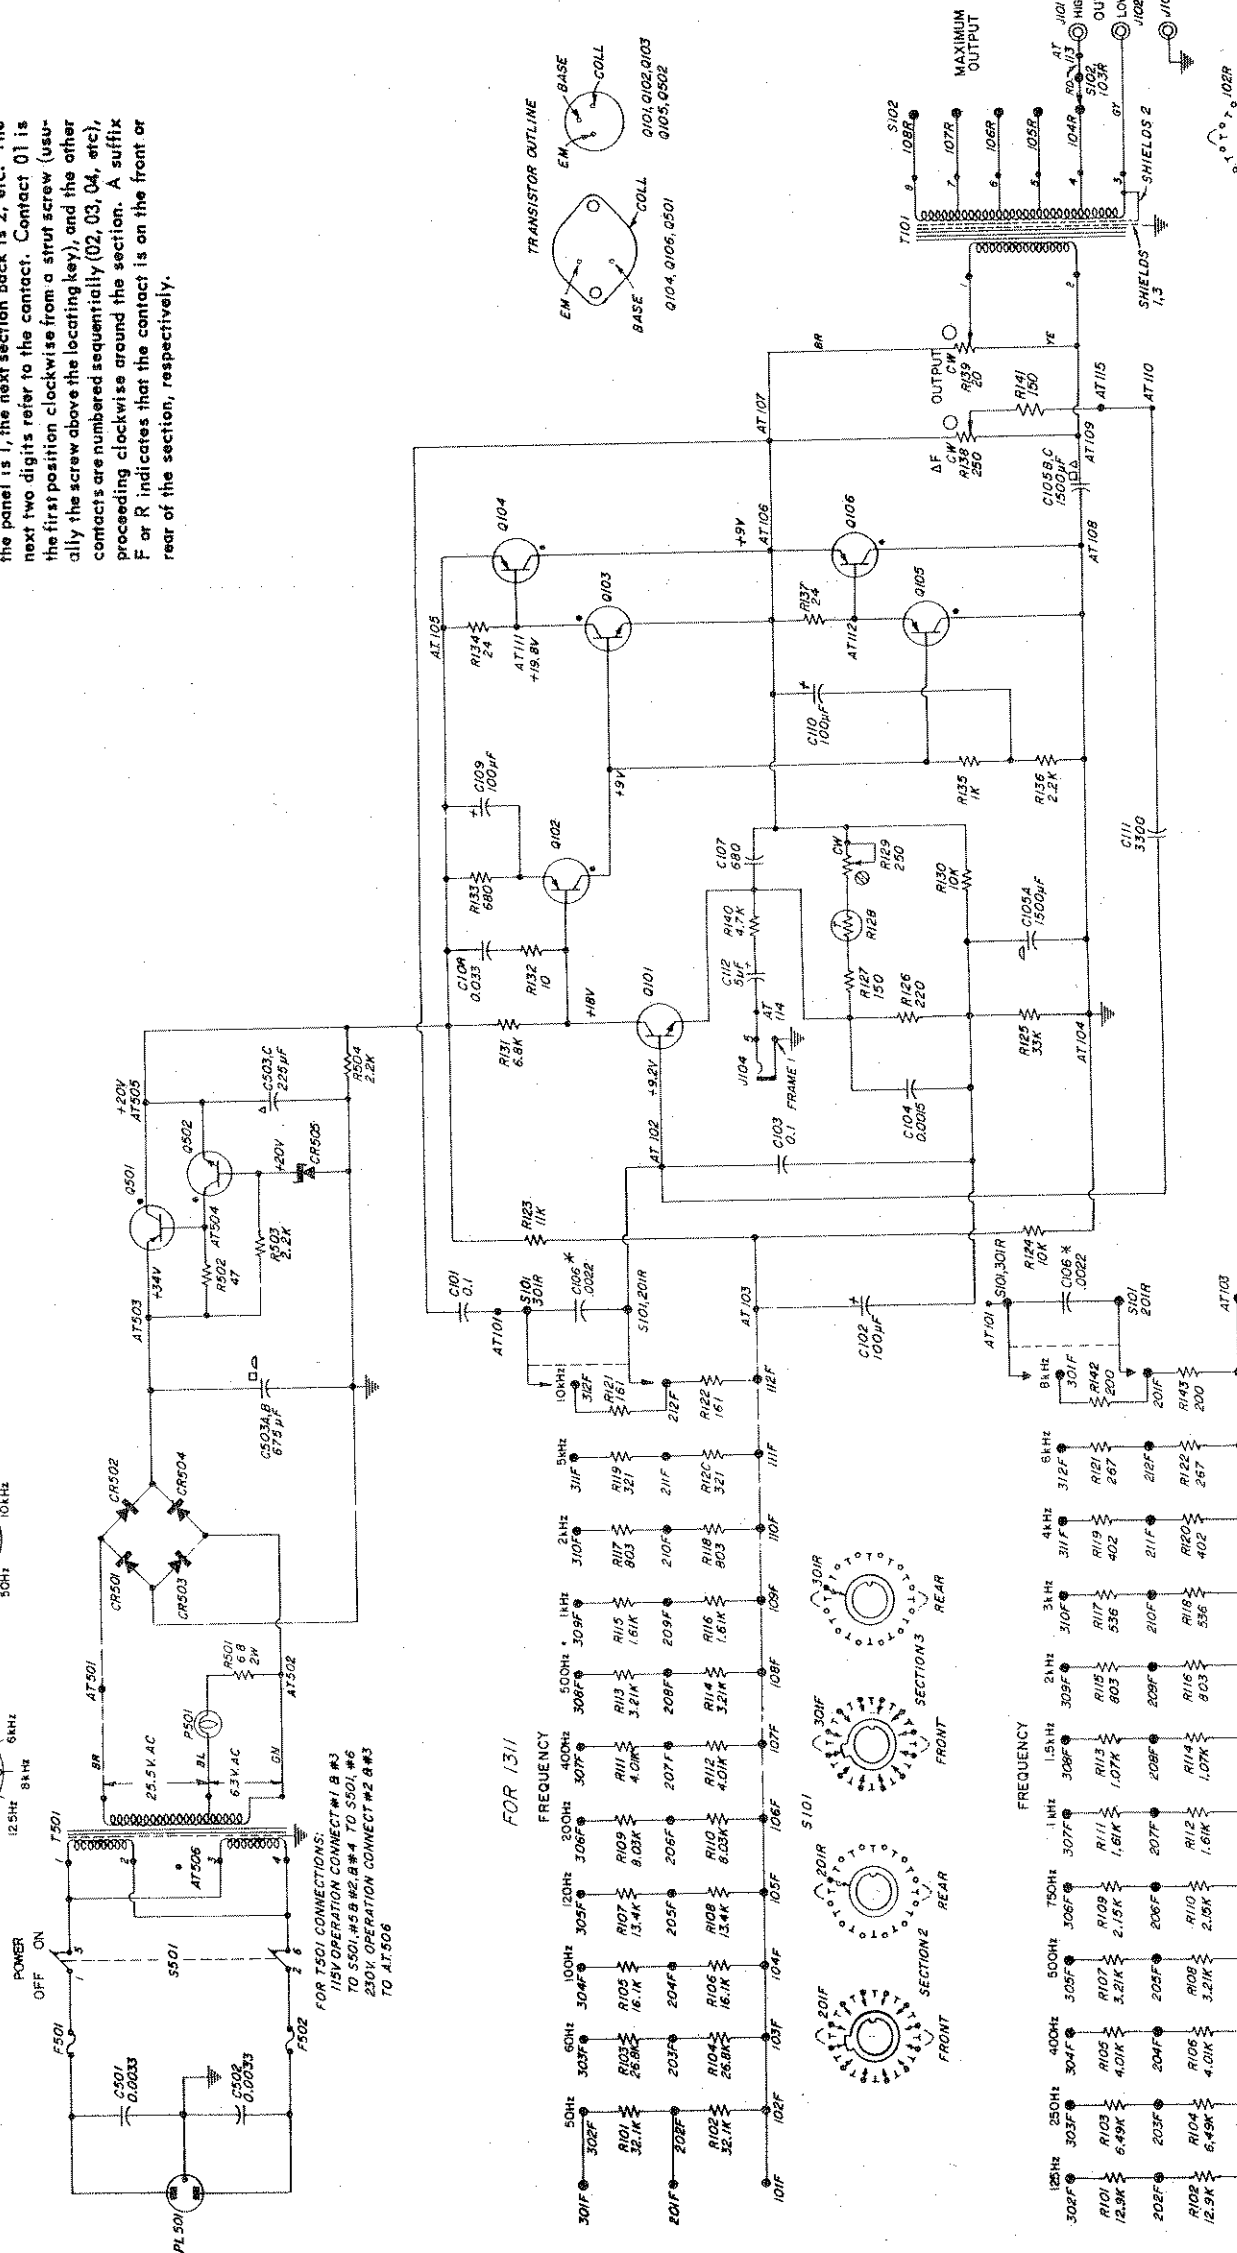

Figure 5-2. Schematic Diagram.
- e. Switch multimeter to dc scale and check voltages as indicated on Figure 5-2. For accessibility of test points on etched-circuit board, see Figure 5-5.
5.8 INTERNAL ADJUSTMENTS. (See Figures 5-2 through 5-5.)